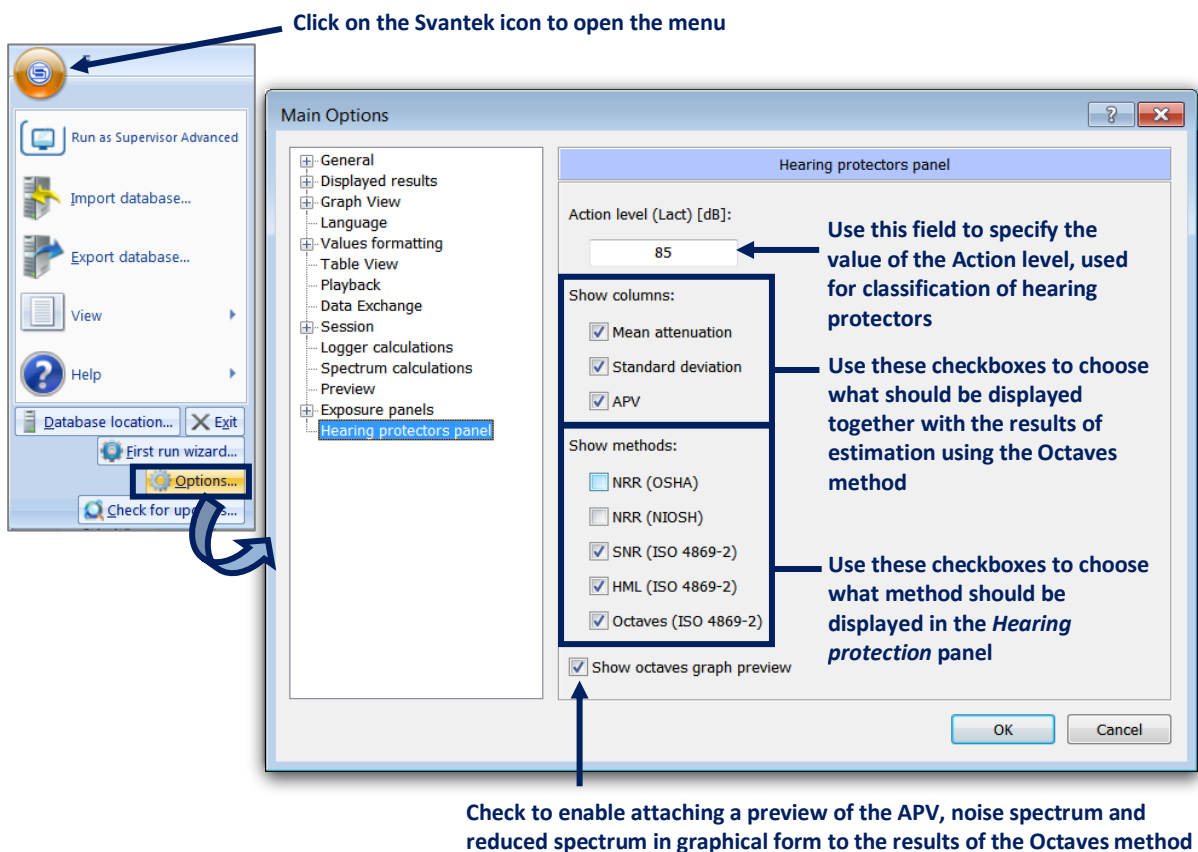

Fig. 5-22. Modifying the Hearing protectors preferences in the Main Options dialog box
Contents of the *Hearing protectors* table can be configured using the *Hearing protectors panel* category of the Main Options dialog box (Fig. 5-22).
**Note:** The classification is based on the value of the Action level, which can be specified in the Main Options dialog box (Fig. 5-22).